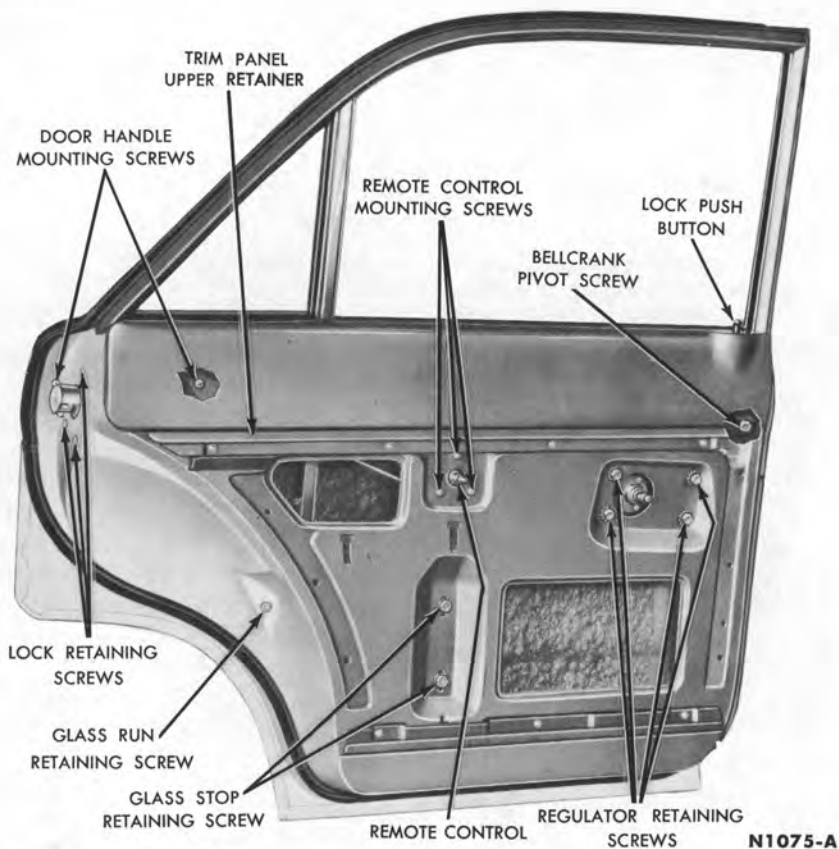

FIG. 7—Rear Door
2. Remove the remote control mounting screws (Fig. 7), and then remove the remote control and link.